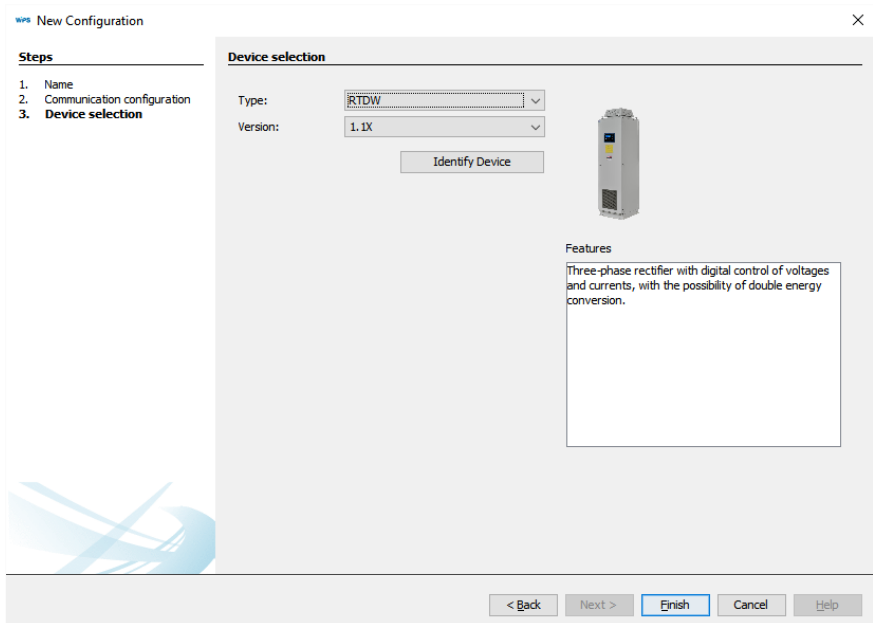

Figure 6.36: Device settings
- Proceed to the next screen (device selection) as shown in Figure 6.36 on page 6-43.